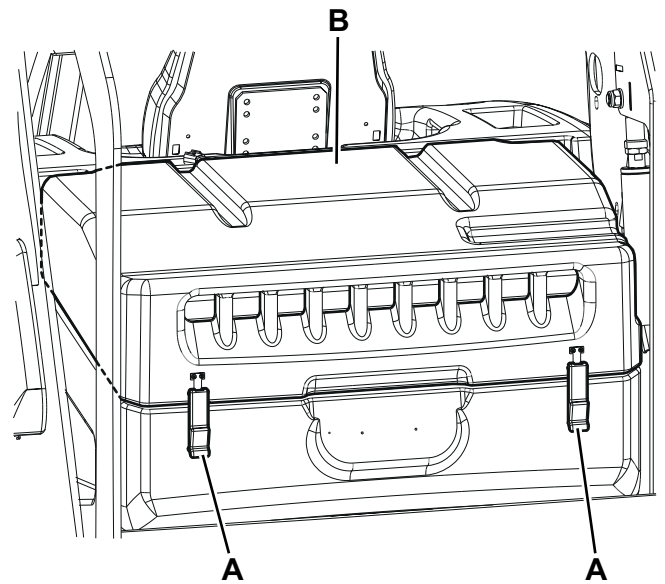

Figure 16
1. Drive the machine on a level ground, engage the parking brake and turn the ignition key (51) to "0".
2. Open the engine compartment hood (19) and fasten it with the support rod (44).
3. Release the fasteners (A, Fig. 16) and open the vacuum system cover (B).
7. Press the lever (E) to disengage and close the cover (B, Fig. 16).
8. Engage the fasteners (A).